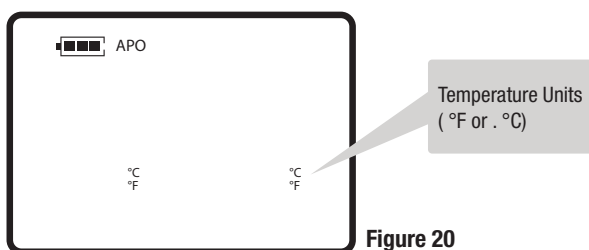

Figure 20
- 3) Press **SET**. The Temperature Units Screen (**FIG.20**) will appear (blinking).
- 3) Press **SET**. The **Temperature Units Screen** (blinking) appears (**FIG.20**).
- 3) Press **SET** to bypass Refrigerants Screen. The Temperature Units Screen (blinking) appears (**FIG. 20**).